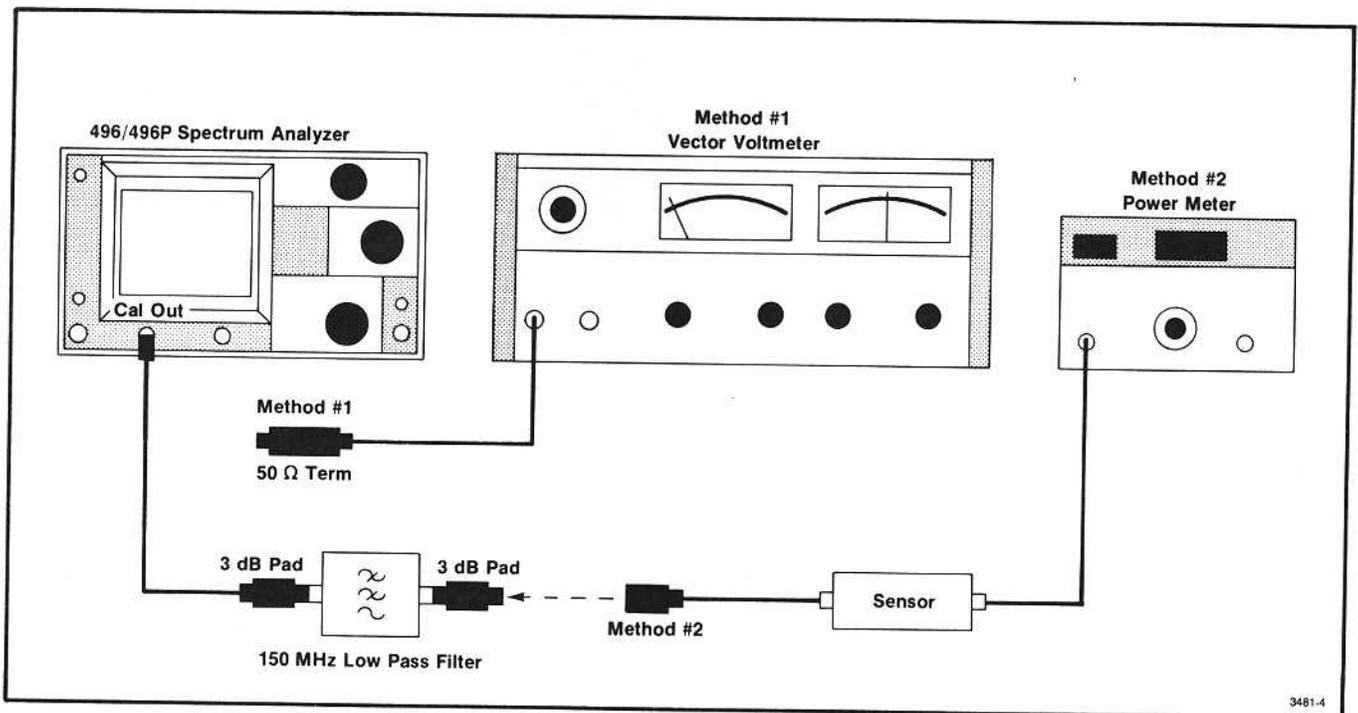

Fig. 3-2. Test equipment setup showing two methods that check calibrator output level.
a. Terminate the voltmeter probe with a 50Ω feedthrough termination and then connect the terminated probe to the 496/496P CAL OUT connector (Fig. 3-2).
a. Test equipment setup is shown in Fig. 3-2.